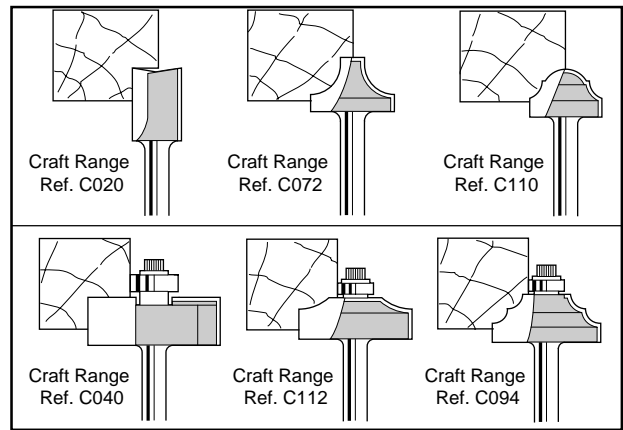

fig. V.1
1. Mark the width and depth of cut required onto the end of the timber. See fig. V.1 for typical profiling and edging operation which can be carried out.